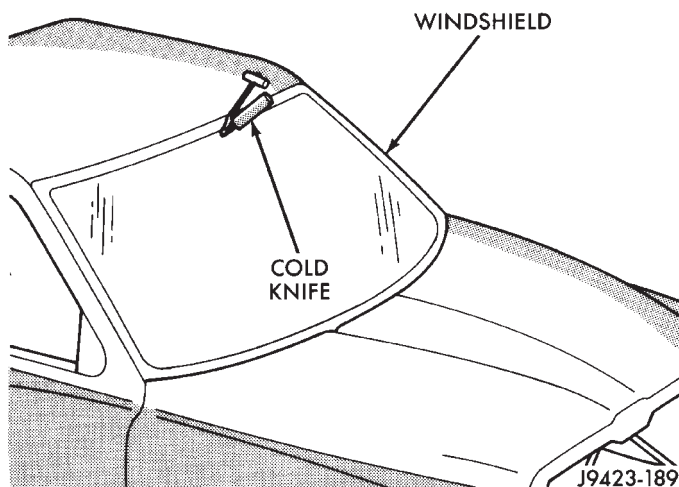

Fig. 1 Cutting Urethane Around Windshield—Typical
(5) Using a cold knife, cut the urethane around the perimeter of the windshield (Fig. 1).